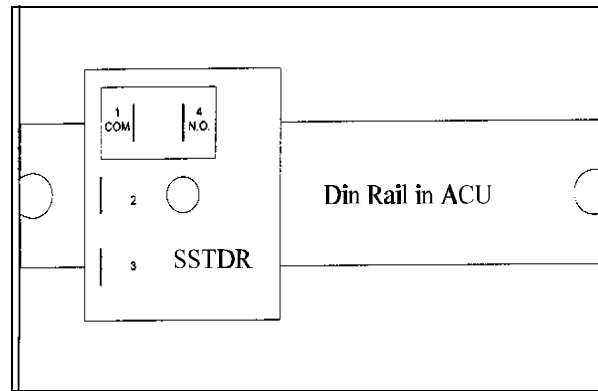

Figure 1 SSTDR on the Din Rail
7. Connect the following wires between the SSTDR and PDB, 1A7: (Use figures 1 and 2 on the following pages for reference) It may be easier to connect the wire if the Din Rail is removed from the shelf. Remove the screws at either end of the Din Rail.